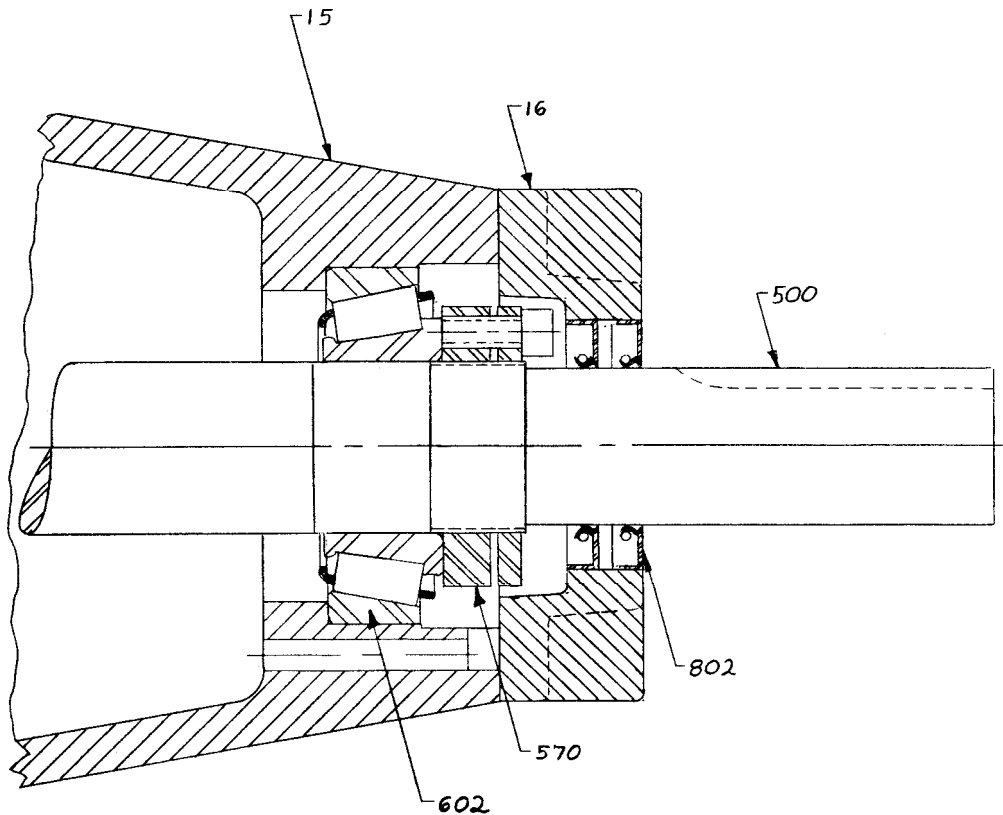

Figure 12
1.0 Refer to Figure 12 during installation
2.0 Install seals (802) in the oil seal plate (16) so the springs will be toward the gear drive.
4.0 Install the seal plate (16) on the horizontal carrier (15). Use a shield to protect the seals from being cut by the keyway on the horizontal shaft (500). **Make sure** the match marks on the oil seal plate and the horizontal shaft carrier are aligned. The oil drain back notch in the seal plate must be located to the bottom.